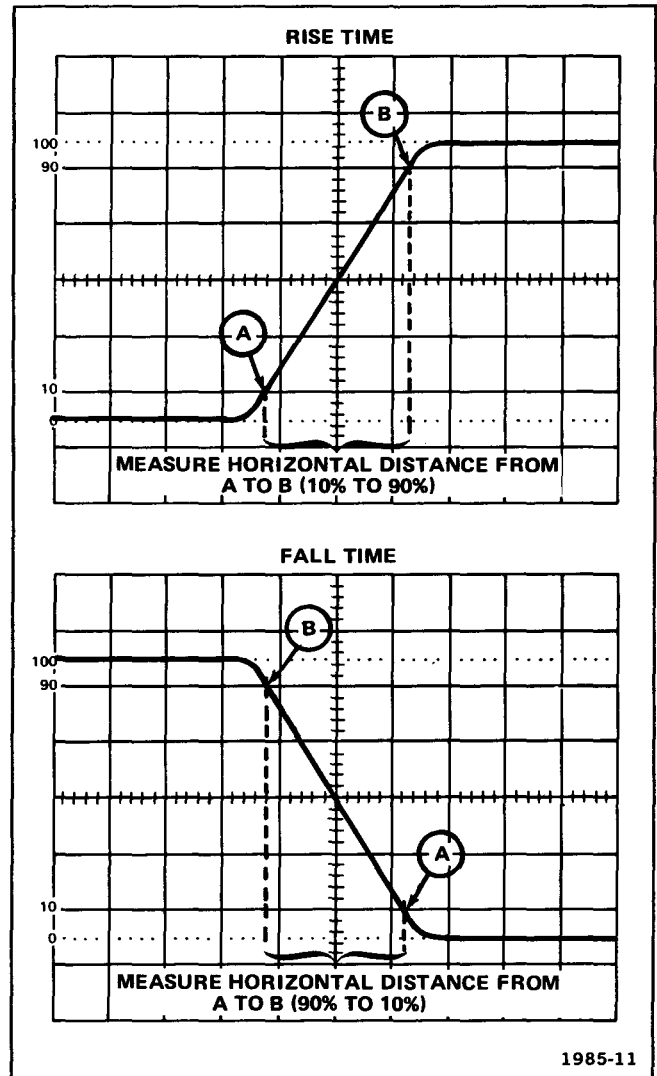

Fig. 1-7. Measuring the rise time and fall time of a displayed waveform.
6. Set the TIME/DIV switch and POSITION control to display the rising or falling portion of the waveform within the center 8 graticule divisions as shown in Figure 1-7 (see General Operating Information in this section for discussion of timing measurement accuracy).
or falling portion of the waveform that is 10% and the point that is 90% of the total display amplitude (see Figure 1-7).
Example: Assume that the horizontal distance from the 10 to 90% points is 2.5 divisions and the TIME/DIV switch setting is  $.1 \mu\text{s}$  (see Figure 1-7).